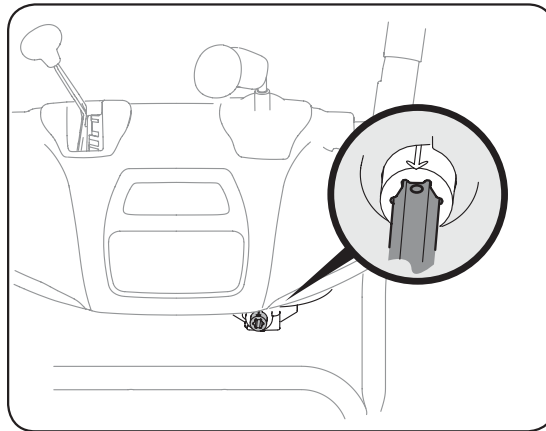
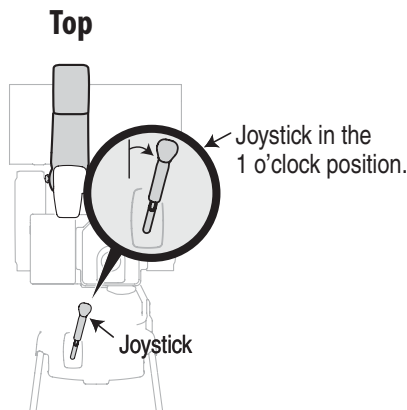

Figure 3-7
Figure 3-6
5. Rotate the joystick to 1 o'clock position (see Figure 3-6) so the silver arrow on the pinion gear faces upward (see Figure 3-7).
**NOTE:** The joystick must be angled slightly to the right as shown Figure 3-6 and the arrow on the pinion gear at the top to ensure full chute rotation.